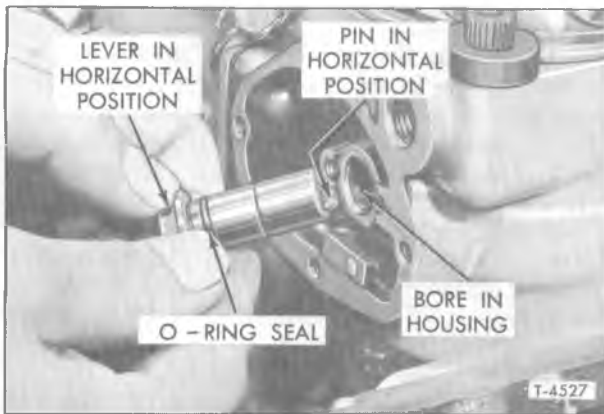

Figure 33—Control Unit Installation
3. Holding the control unit, pin, and O-ring assembly as shown in figure 33, with the control unit arm horizontal and pointing toward the rear of the pump and with the pin horizontal and the identification dot (fig. 30) up, insert the assembly into the pump housing.